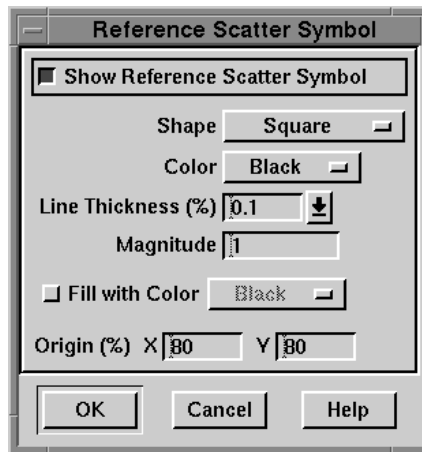

Figure 14-7. The Reference Scatter Symbol dialog.
1. Choose Reference Scatter Symbol from the Scatter sub-menu of the Field menu. The Reference Scatter Symbol dialog appears, as shown in Figure 14-7.